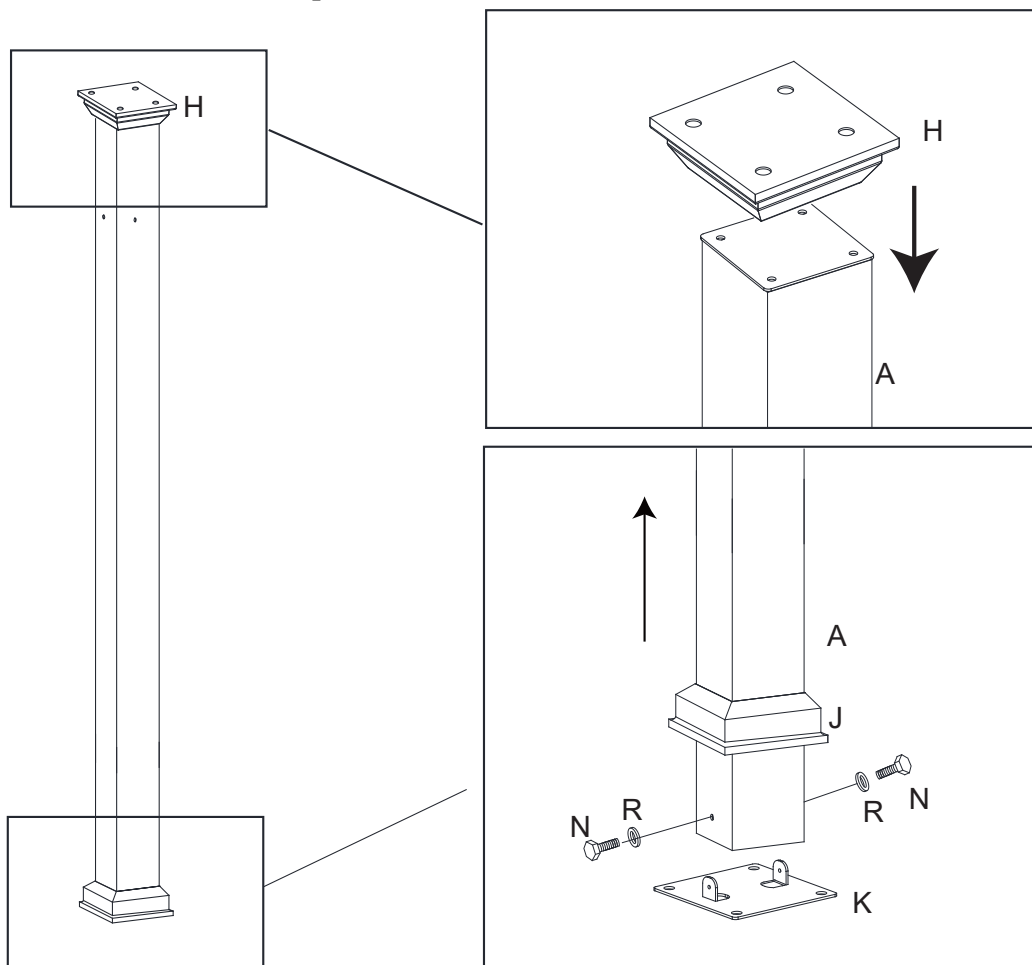

Figure 1-2
**Step 1B:** Place the Corner Post Cover (H) onto the top of the Corner Posts (A). See Figure 1-2. Do not attached with Bolts at this point.